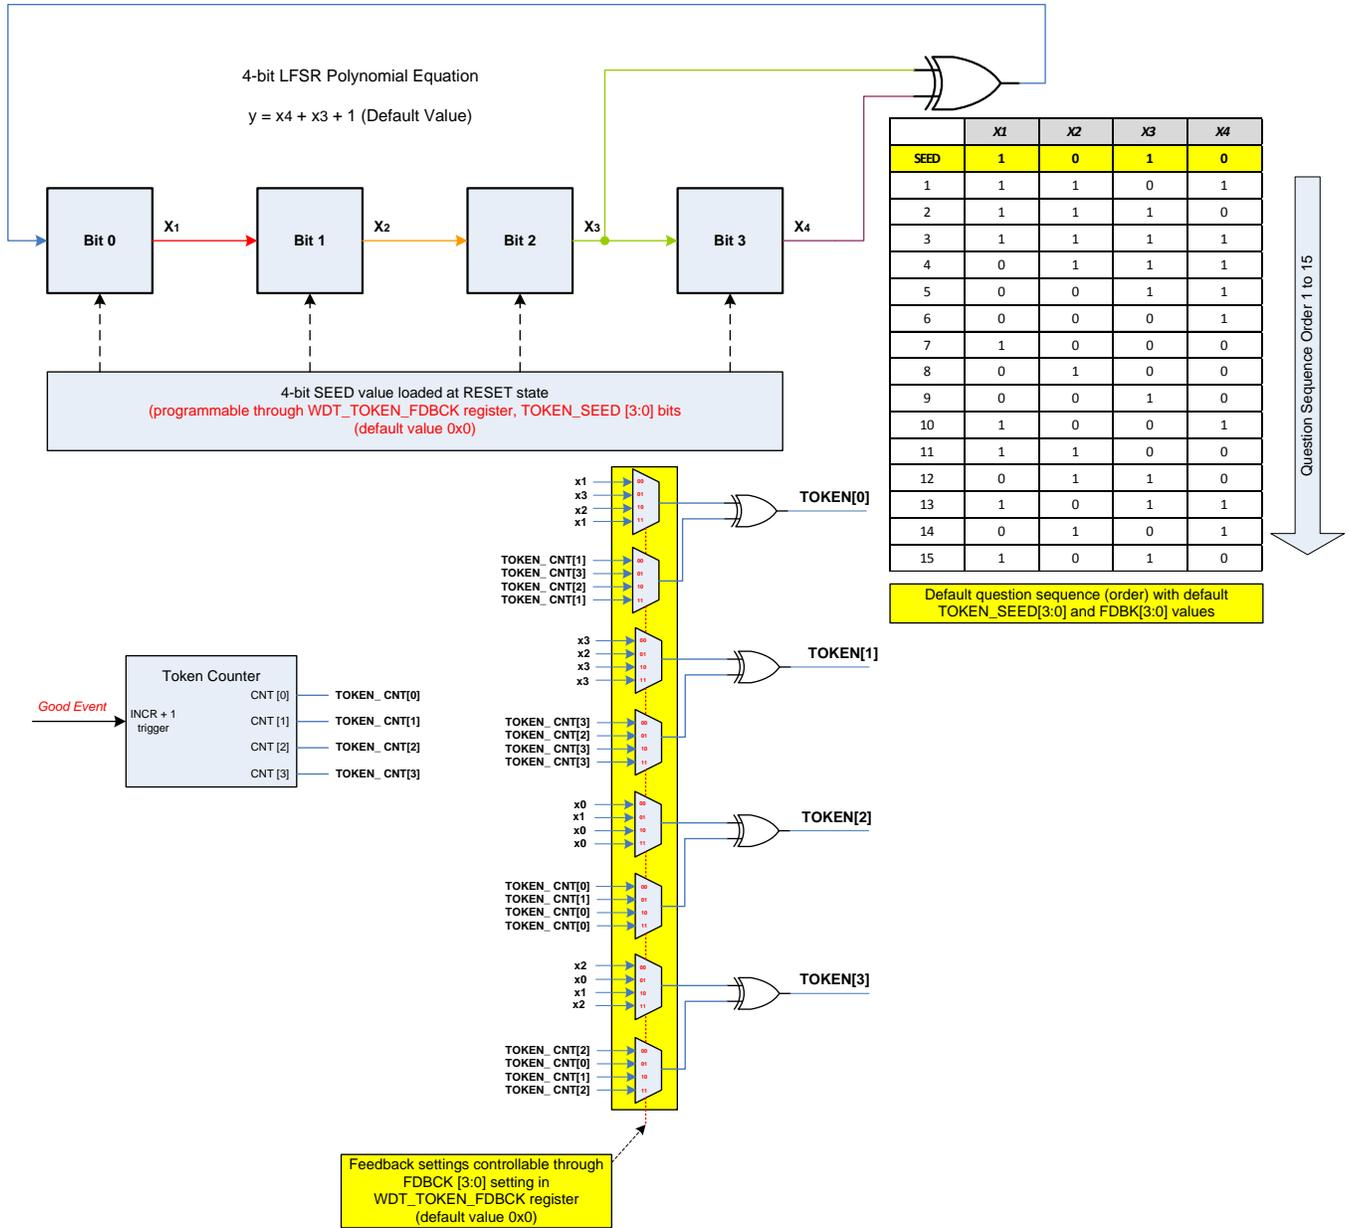

Figure 5-9. Watchdog Question (Token) Generation
- The MCU can request each new question (token) at the start of the watchdog sequence, but this is not required to calculate the answer. The MCU can also generate the question by implementing the question generation circuit as shown in Figure 5-9. Nevertheless, the answer and, therefore the answer bytes, are always based on the question generated inside the watchdog of the device. So if the MCU generates a wrong question and gives answer bytes calculated from a wrong question, the watchdog detects a *bad event*.
The watchdog uses a 4-bit token counter (TOKEN_CNT[3:0] bits in Figure 5-9), and a 4-bit Markov chain to generate a 4-bit question (token). The MCU can read this question in the WDT_TOKEN_VALUE register, the TOKEN[3:0] bits. The watchdog generates a new question when the token counter increments, which only occurs when the watchdog detects a *good event*. The watchdog does not generate a new question when it detects a *bad event* or a *time-out event*. The watchdog does not generate a new question for a watchdog sequence which starts after the MCU writes to the WD_WIN1_CFG or WD_WIN2_CFG registers.
Figure 5-9 shows the logic combination for the question (token) generation. The question is in WDT_TOKEN_VALUE register, TOKEN[3:0] bits.
The logic combination of the token counter with the WDT_ANSW_CNT[1:0] status bits (in the WDT_STATUS register) generates the reference answer bytes as shown in Figure 5-9.